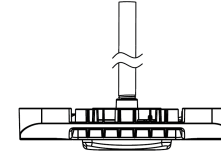

FIGURE 5
- Connect the wires as shown (Fig. 6) and then secure fixture to the ceiling with the 3/4" NPT Pendant (Fig. 5). If the dimming leads are not used, cap off each of the these wires.